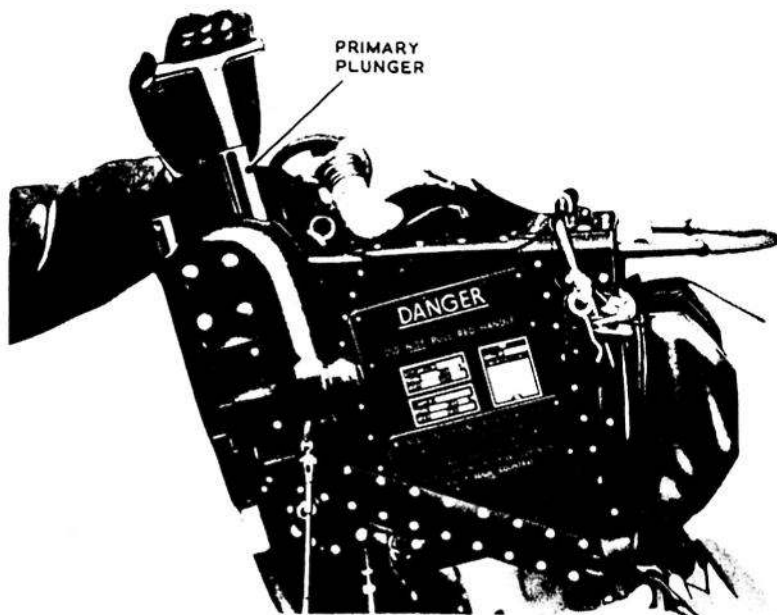

Fig. 1. Re-setting barostatic time-release mechanism
- (2) Place the rack plunger tool over the primary plunger (top diagram, fig. 1) and press down until it engages.
- (3) Place the harness release plunger tool over the plunger (bottom diagram, fig. 1), ensuring that the cut-away portion of the tool is facing forward, and press down until it engages. Whilst doing so, place the other hand on the safety harness quick-release lever and assist it round to the locked position.
- (4) Remove the cocking tool.